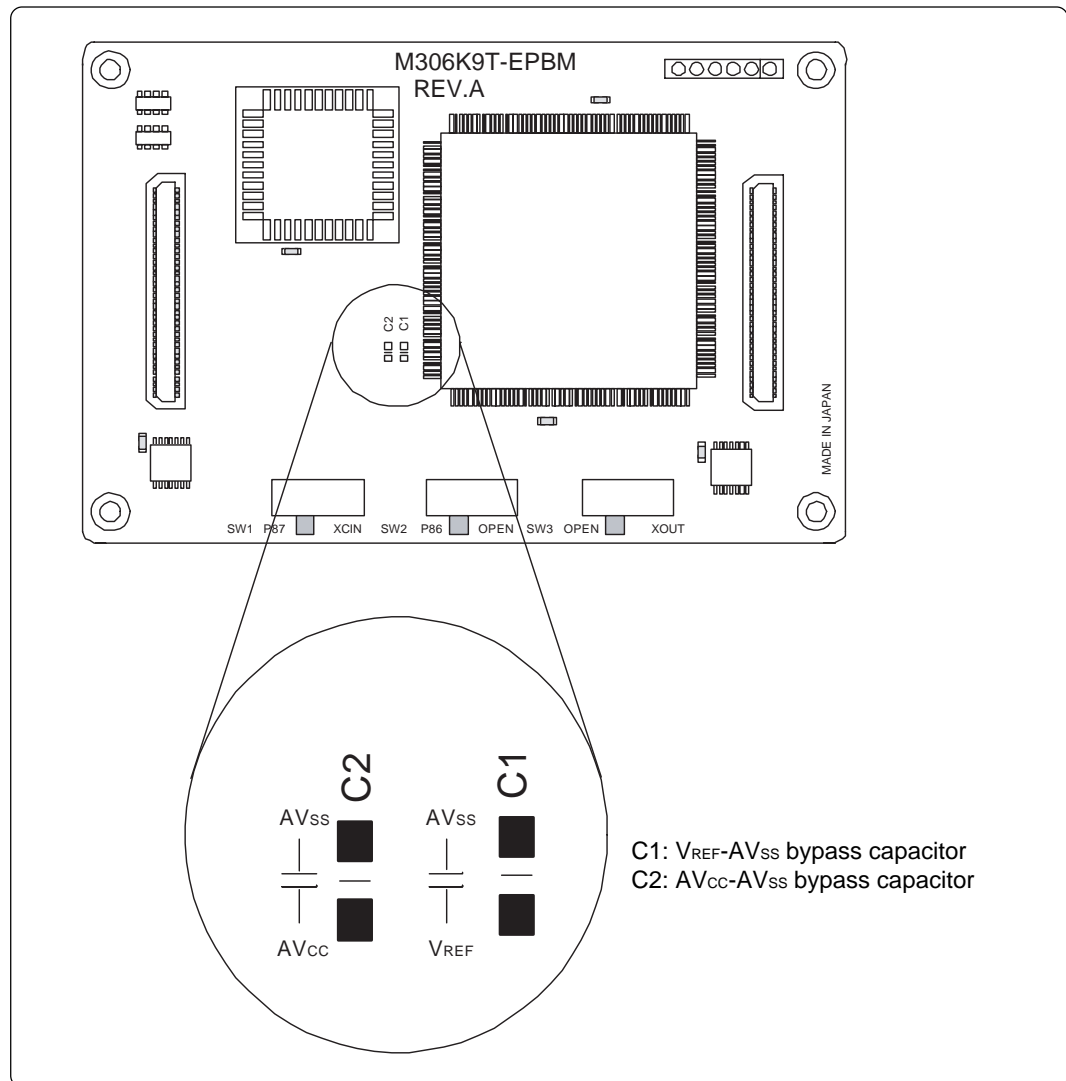

Figure 3.6 Foot pattern for A-D conversion bypass capacitors
- To operate this product with an external clock, construct the oscillator circuit as shown in Figure 3.6 in the target system and input the oscillator output at 50% duty (within the operating range of the evaluation MCU) into pin  $X_{IN}$ . And pin  $X_{OUT}$  should be open.
There is a foot pattern on the M306K9T-EPBM board for mounting bypass capacitors for the A-D conversion circuit near the MCU. Mount suitable bypass capacitors as occasion demands. Figure 3.6 shows where they are installed and the configuration of this product.